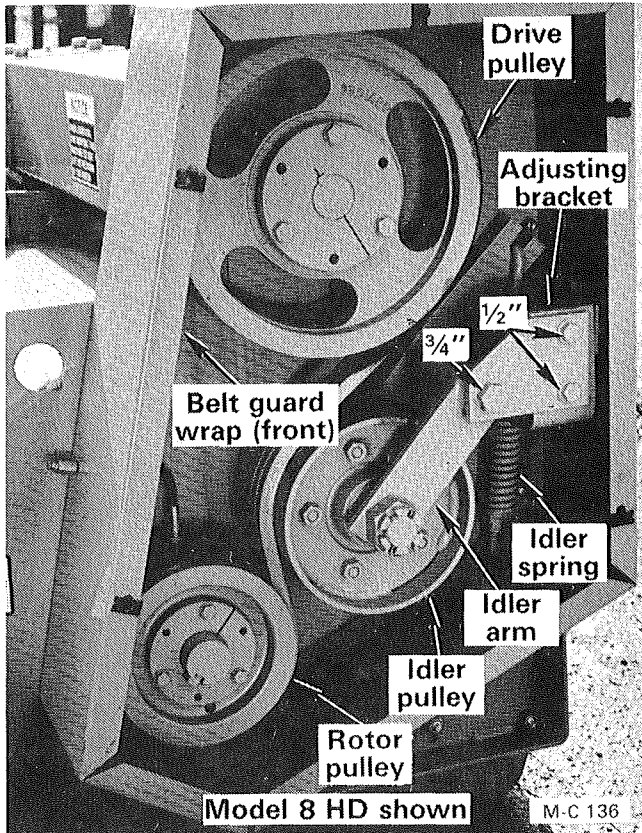

Figure 23
1. To check drive belt pulley alignment, remove the belt guard cover and place a straight edge across the face of the drive and rotor pulley, see Figure 23, page 18.
3. If the idler pulley is out of alignment, loosen the idler spring rod locknut and back off the idler spring adjustment nut to relieve all spring tension, see Figure 23.